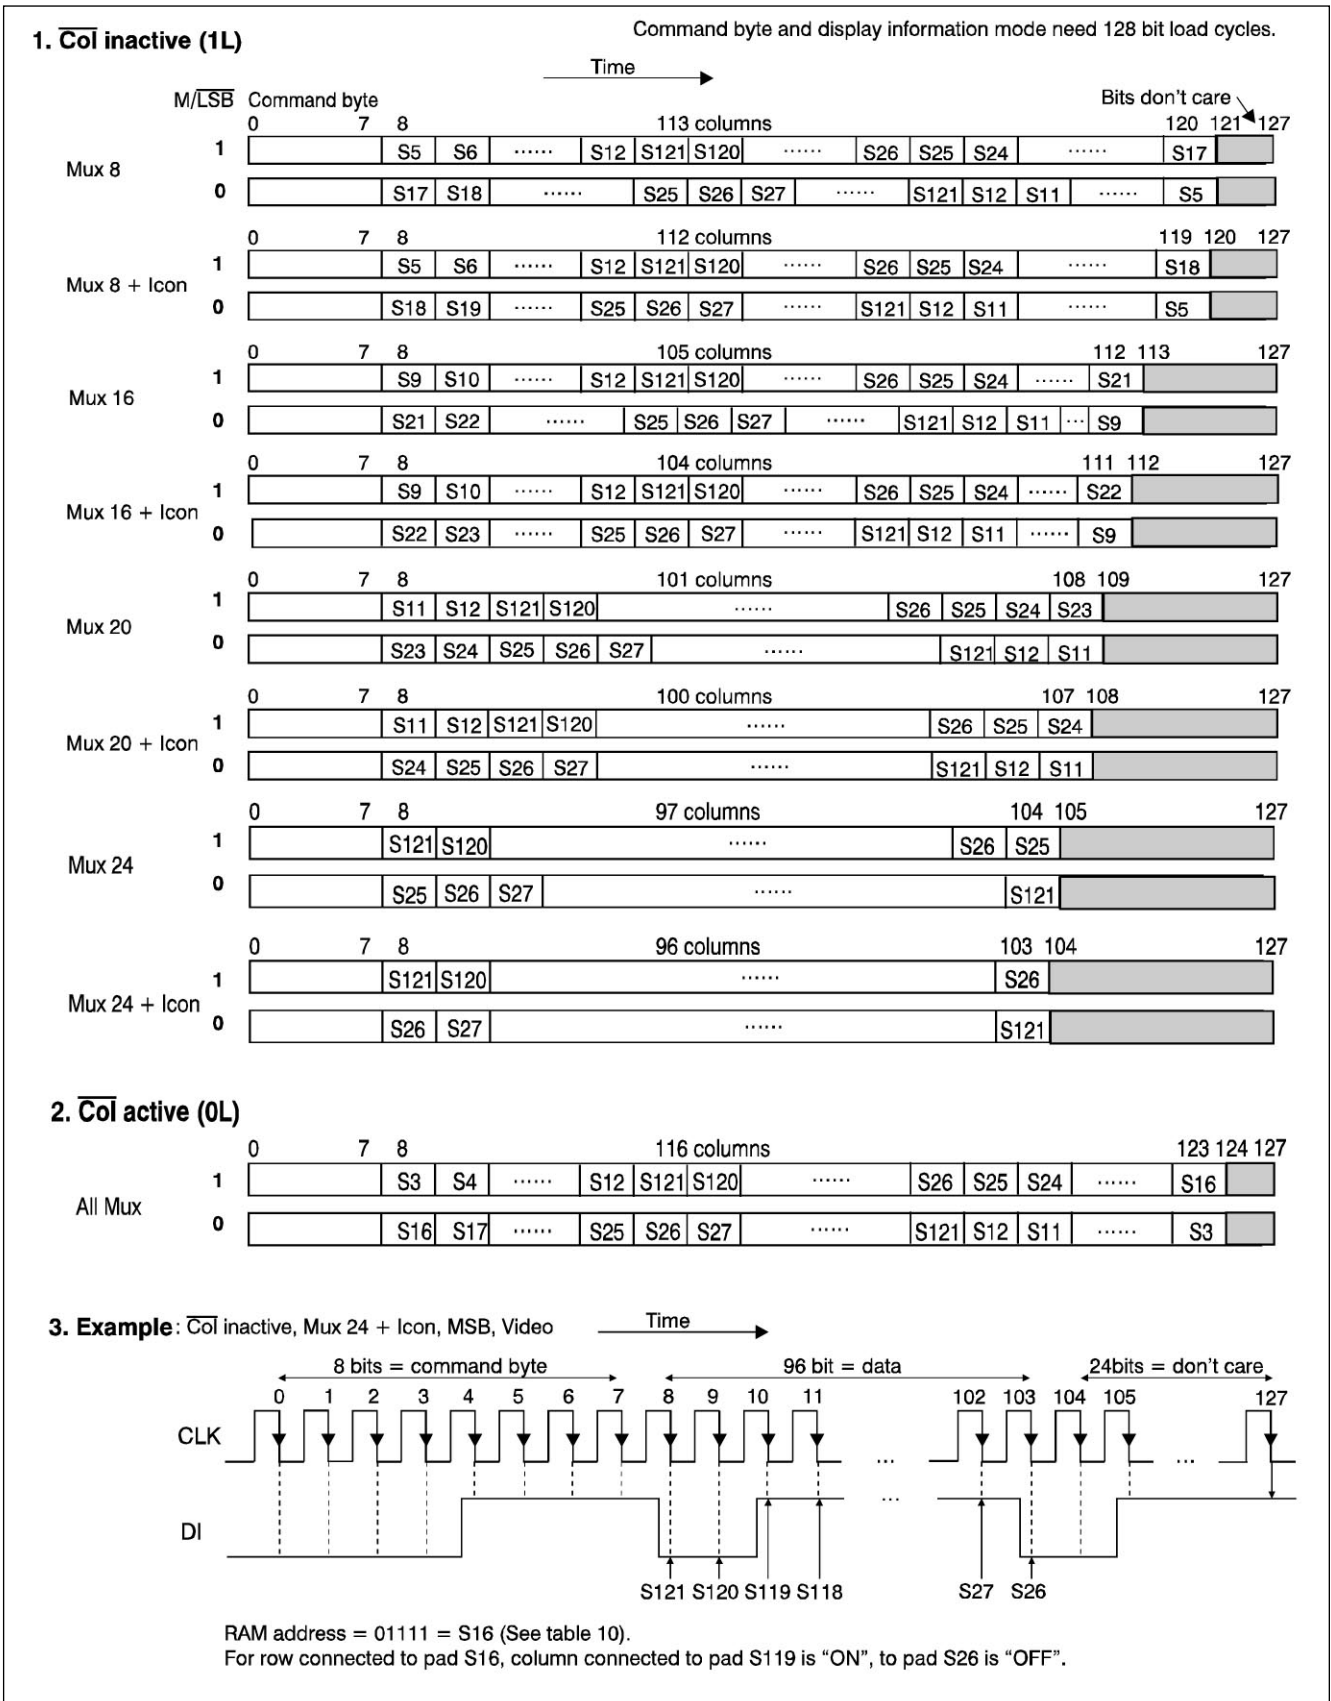

Fig. 4
To validate this mode, 128 bits must be shifted, eight first bits are for command byte, all the other are RAM data depending of col bit mode and multiplex ratio. There are also x bits don't care in each loading depending on the programming of the chip (see Fig. 4 for more details).
**Init.bit 16:** M/LSB, possibility to inverse the order loading for RAM data (see Fig. 4).
| S1..S121         | LCD outputs, see Fig.4              |